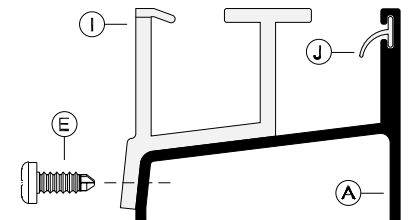

figure 6
9. To insure proper operation, Track Guide (I) must be centered on Sill (A) when installed. Locate center of Sill, position the Track Guide on the Sill and using holes on Guide as templates, secure Guide to the Sill using two 638phpt Self Drilling Screws (E) as shown in figure 6.